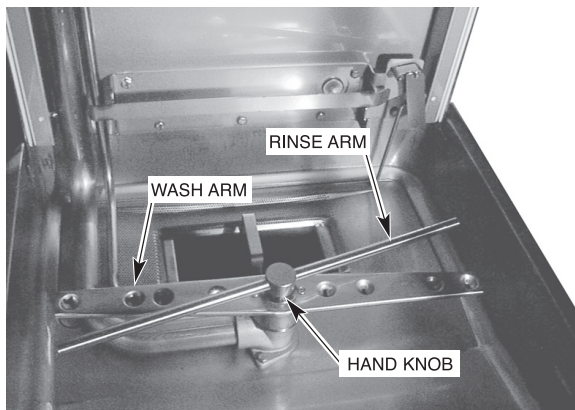

Fig. 29
10. Remove and check wash arms and rinse nozzles (Figs. 29, 30) to make sure they are free of any lime and solids. Refer to Maintenance, page 26.
Upper and lower wash and rinse arms (Figs. 29, 30) should turn freely and continue turning for a few seconds after being whirled by hand. To check, rotate arms and remove any obstructions causing improper operation.
To remove the lower wash arm, unscrew the hand knob and lift the rinse arm off (Fig. 29). The wash arm can be lifted off once the rinse arm is removed.